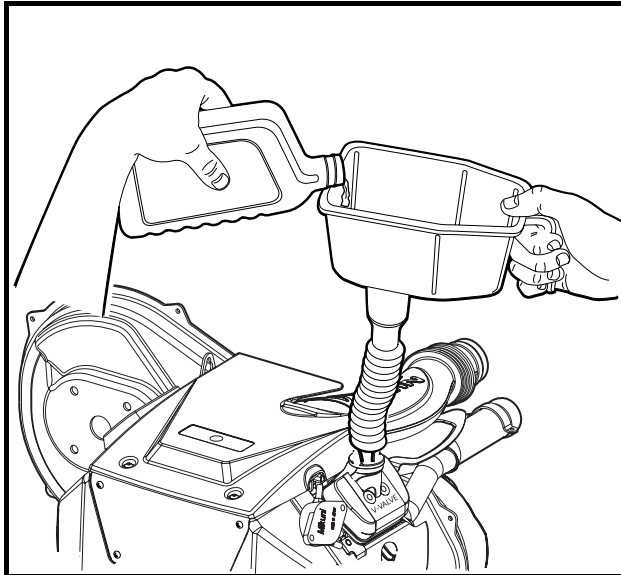
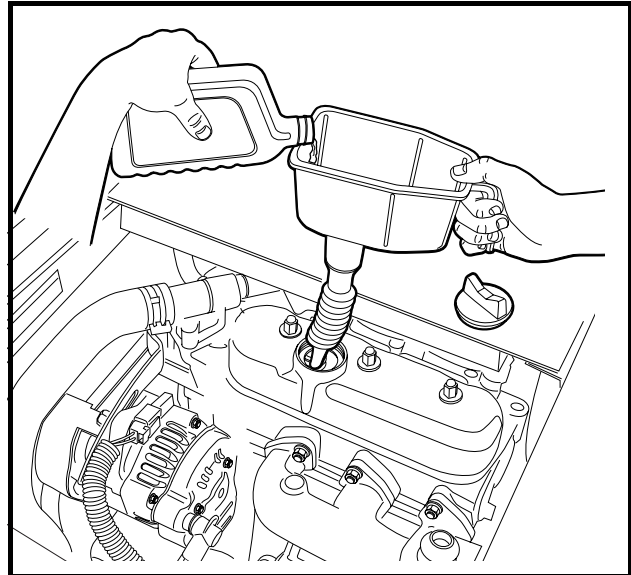

Figure 25 Add Engine Oil – Gasoline Vehicles
Figure 26 Add Engine Oil – Diesel Vehicles
1. Add engine oil; use a funnel or pour spout to direct the oil into the opening (**Figure 25 or Figure 26**). With filter change, the engine requires: